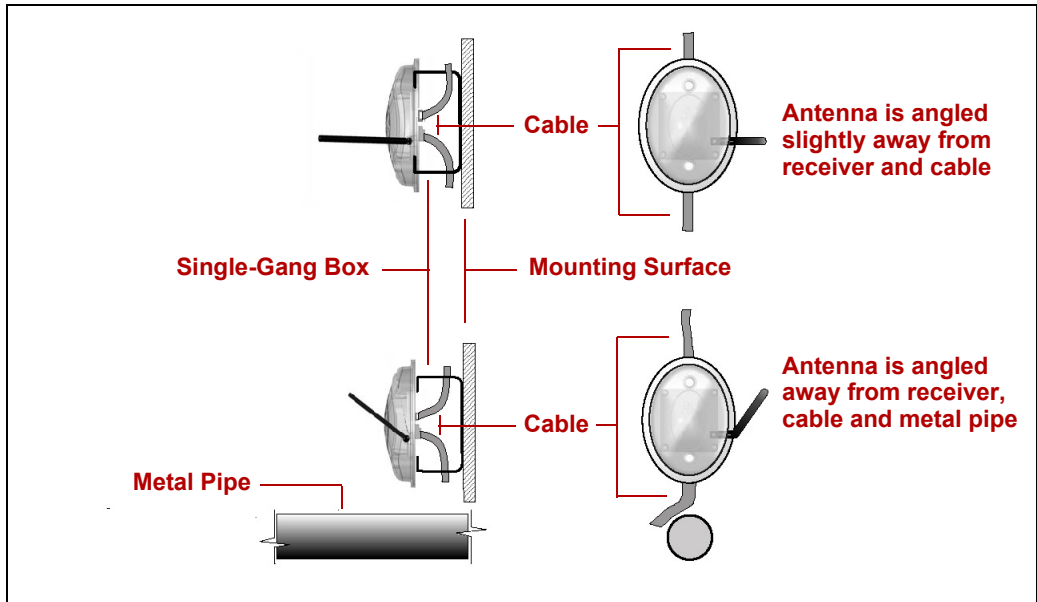

Figure 3-11: Antenna Orientation With and Without Adjacent Objects
- 11 Move the antenna into its final position. Refer to Figure 3-11 on page 3-25.
- 13 Move the antenna into its final position. Refer to Figure 3-11 on page 3-25.